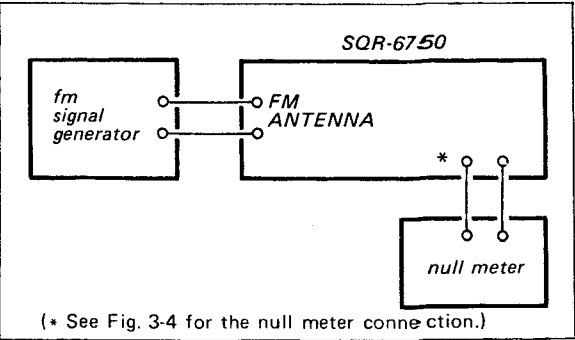

Fig. 3-5. Muting adjustment setup
2. Connect the null meter as shown in Fig. 3-5.